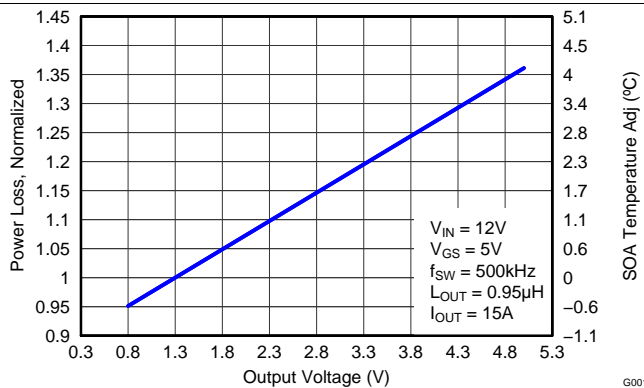

Figure 7. Normalized Power Loss vs Output Voltage
- Normalized Power Loss for output voltage ≈ 0.97 (Figure 7)
- SOA adjustment for output voltage $\approx -0.3^{\circ}\text{C}$ (Figure 7)